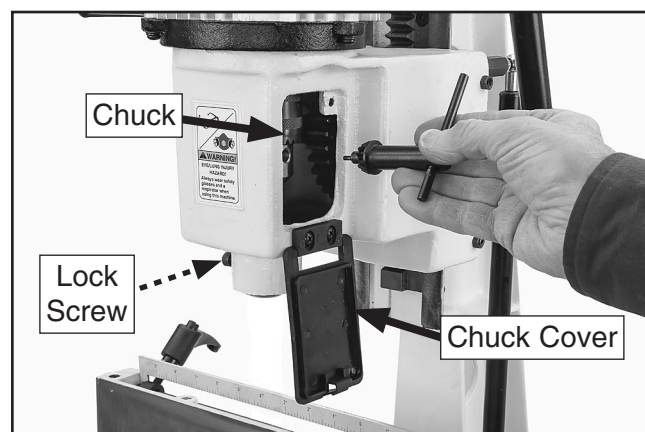

Figure 13. Loosening chuck.
3. Using chuck key, loosen chuck, then loosen chisel lock screw on outside of bushing collar (see **Figure 13**).